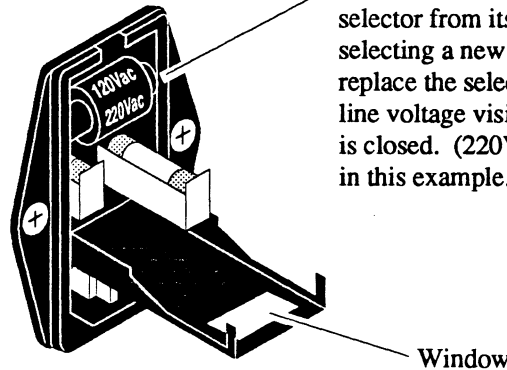

Figure 3 - The Voltage Selector
3. Remove the voltage selector and reinsert it such that the proper voltage is visible when the door is closed again (Figure 3).